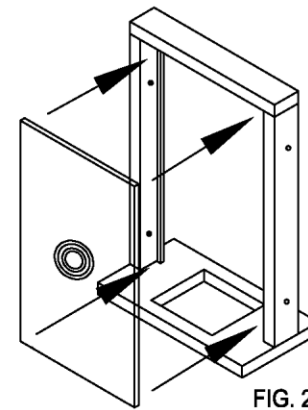

FIG. 2
- 6) RE-INSTALL THE B.R. GLAZING INTO THE TICKET WINDOW FRAME. (SEE FIG. 2 & 3)